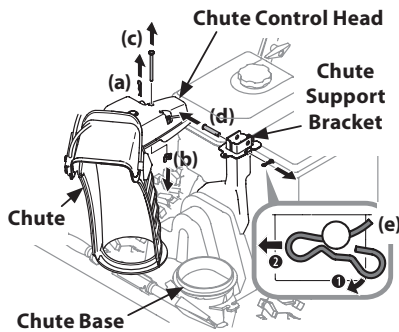

Figure 2-27
1. Remove hairpin clip (a), wing nut (b) and hex screw (c) from chute control head and clevis pin (d) and bow-tie cotter pin (e) from chute support bracket. See Figure 2-27.